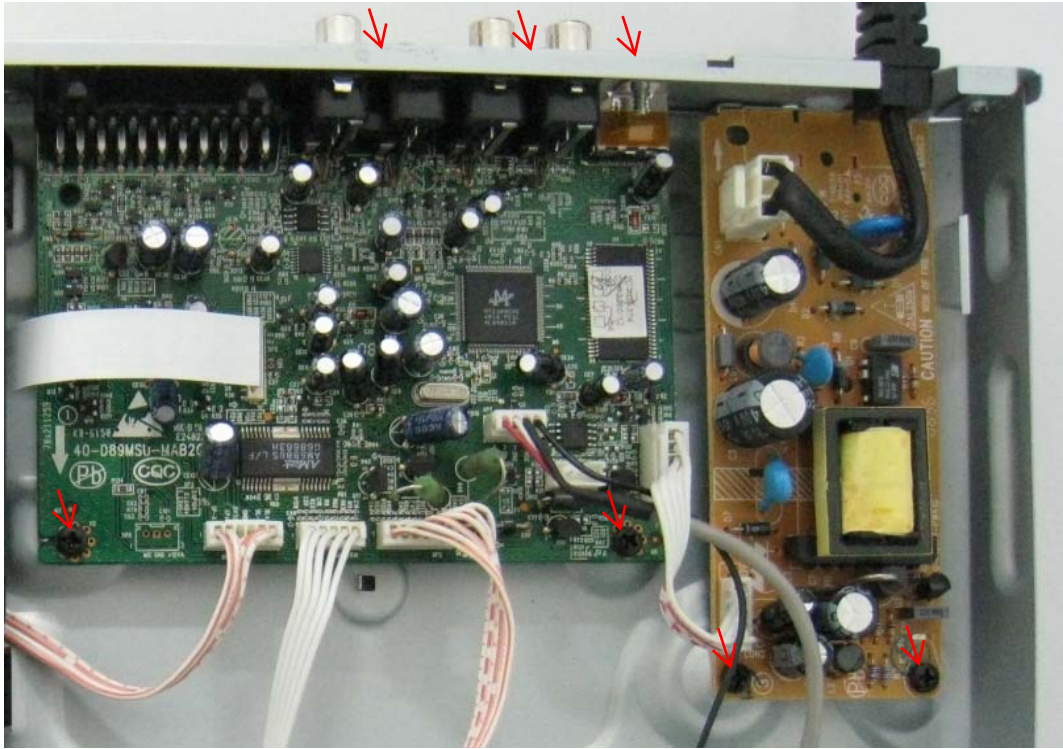

Figure 7
Step6: Dismantling Main Board, first disconnect the connector (XP1), and then remove 5 screws. (Figure 7)
Step7: Remove the 2 screws on Power Board to dismantle the Power Board. (Figure 7)